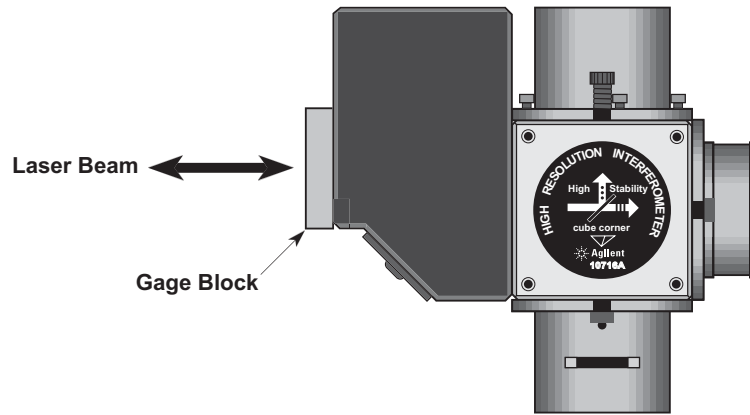

Figure 159 Agilent 10716A with gage block attached
- 4 Place a rectangular gage block over the input aperture so the laser beam is reflected back toward the laser. See Figure 159.